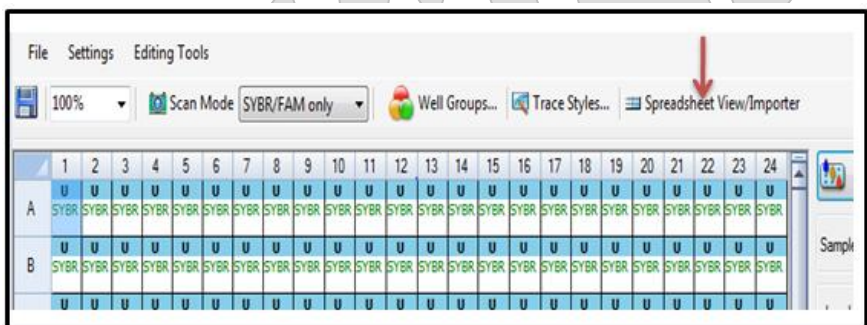

Figure 26: Spreadsheet View/Importer
5.5. In the next window, click on ‘Spreadsheet View/Importer’ as shown in Figure 26.